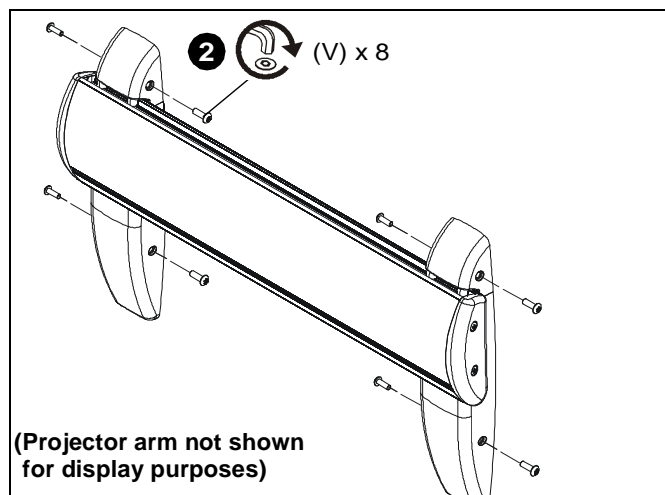

Figure 68
2. Install eight #8-32 x 1/2" button head security screws (V) into holes in wall bracket covers. (See Figure 68)